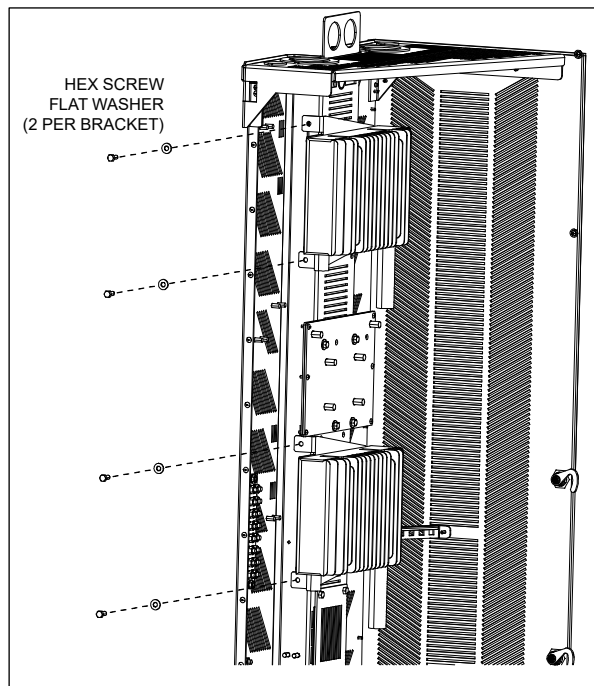

Figure 7 **Mount PSUs**
6. When the paint is dry, mount the power supply/bracket assembly to the newly drilled mounting holes using 1/4-20 (5/8" long) hex bolts with flat washers (Figure 7). Secure from behind the central spine with Keps nuts and flat washers (not visible).